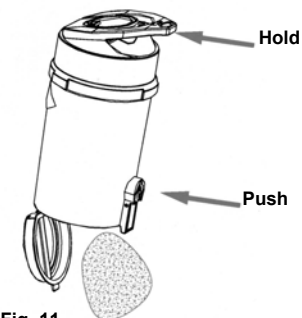

Fig. 11
2. To empty the dust cup container, hold the dust cup from the top over a garbage container and press on the trap door release button that is on the front side of the dust cup container to release the dust cup bottom (Fig. 11)